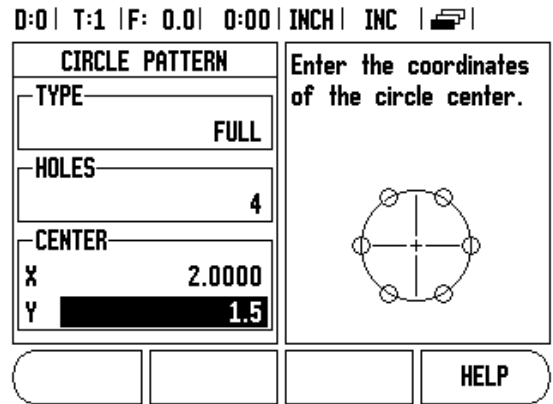
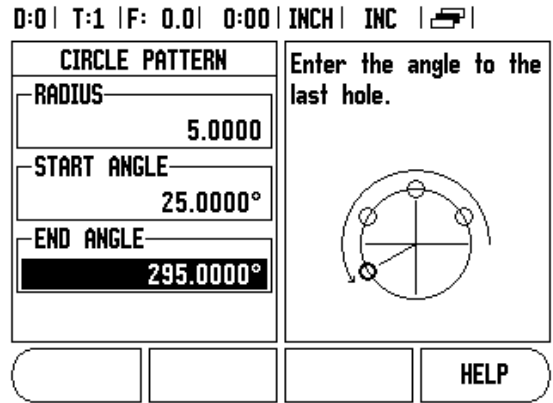

Fig. I.18 Beginning of Circle Pattern form
Fig. I.19 Page 2 of Circle Pattern Form
**Example: Enter data and execute a circle pattern.** See Fig. I.18 & Fig. I.19.